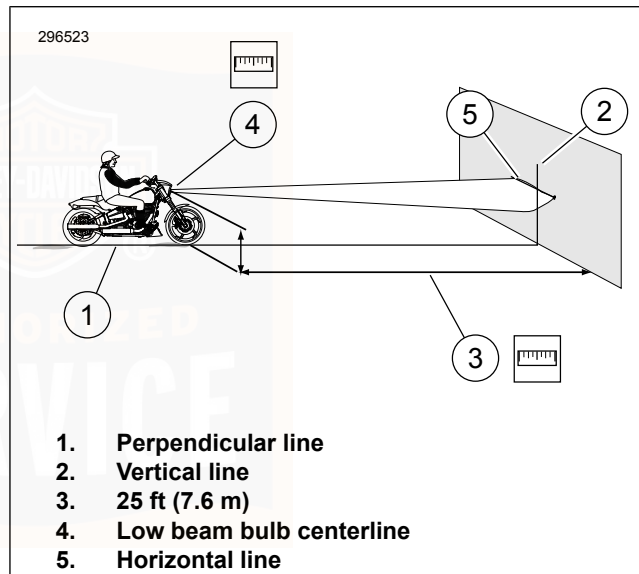

Figure 80. LED Headlamp Alignment
1. See Figure 80. Park the motorcycle on a line (1) perpendicular to the wall.